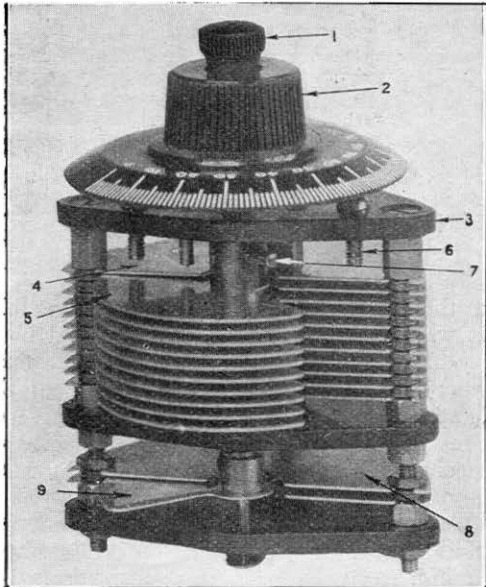

Fig. 11. A variable condenser with vernier.
- (2) It is much more convenient to build the small condenser into the main condenser as illustrated in Fig. 11. Here, 1 is the knob which controls